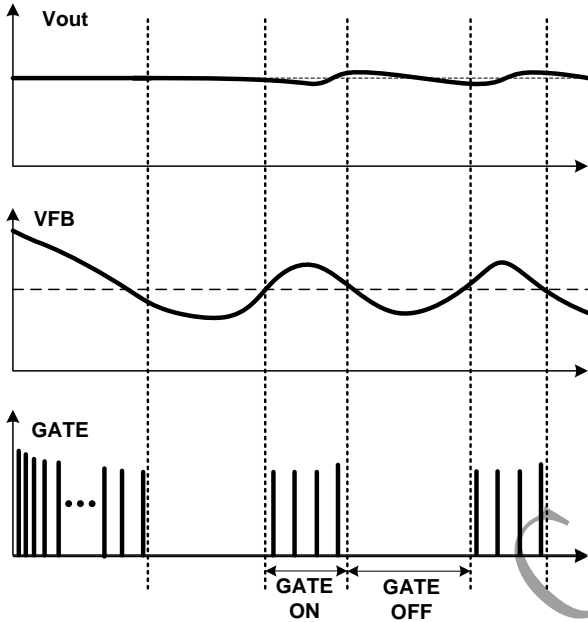

Fig.5
■ When zero or very light load conditions, the IC enters into burst mode. In the burst mode (as illustrated in Fig.5), the valley locking counting number is fixed at 8. In this way, a small standby power can be achieved.
When the loading is very small, the system enters into burst mode. When VFB drops below VFB_min_duty, SF5887 will stop switching and output voltage starts to drop, which causes the VFB to rise, as shown in Fig.5. Once VFB rises above VFB_min_duty, switching resumes. Burst mode control alternately enables and disables switching, thereby reducing switching loss in standby mode.